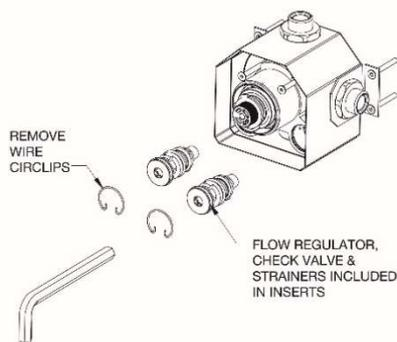

Figure 23
3. To isolate the shower, loosen the isolators in an anti-clockwise direction until its flush with the face of the body. This closes the shut off valves (see figure 23). To re-open the shut off valves tighten the flow regulator/check valve/filter units until tightened (do not over tighten) and refit the two clips.